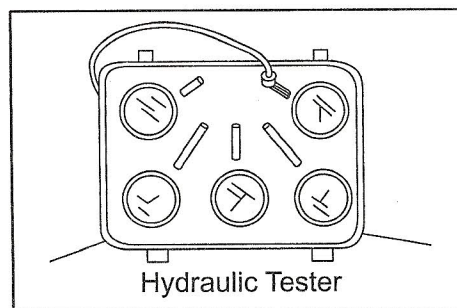

Fig. 05-18
- Install pressure-gauge onto the measuring port of the gearbox, and get it connected with the control panel inside the cab. Afterwards, start the engine and begins to measure the oil pressure (See Fig. 05-18).